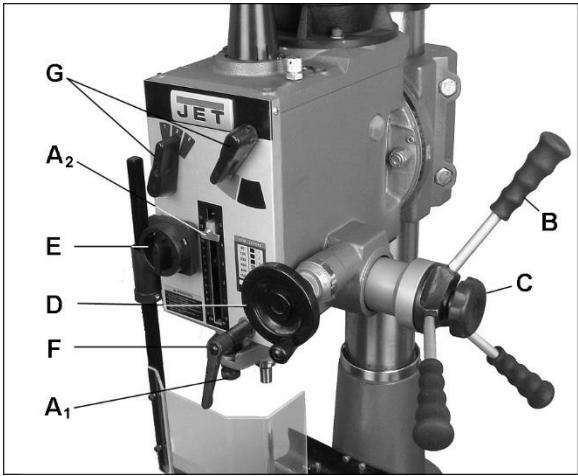
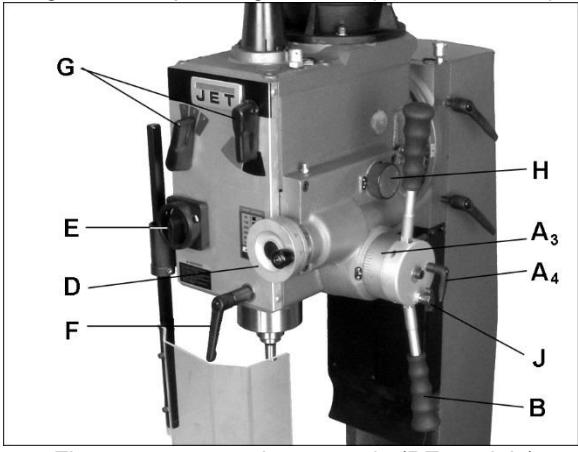

Figure 8-1: operating controls (non-PF models)
Figure 8-2: operating controls (PF models)
Refer to Figure 8-1 (non-powerfeed models) or Figure 8-2 (powerfeed models).
See Figure 8-2.
### Non-powerfeed models (Figure 8-1):
### Powerfeed models (Figure 8-2):
3. Tighten spindle lock (F, Figures 8-1,8-2) at desired height.